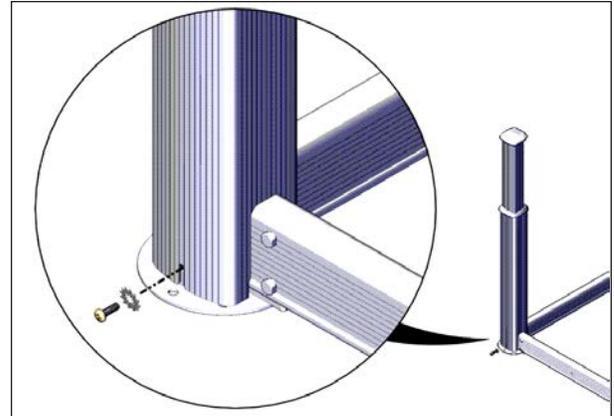

FIGURE 77: SLEEVE BOTTOM SCREW
1. Partially unscrew the M6 x 20 mm Phillips screw located at the base of the external sleeve of the post, see Figure 77.